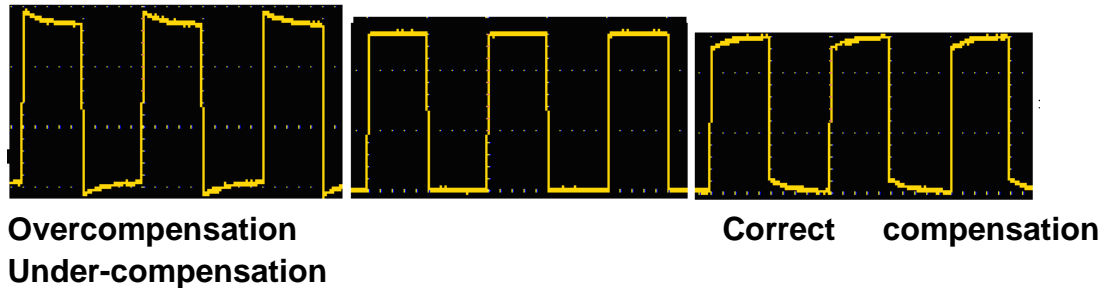
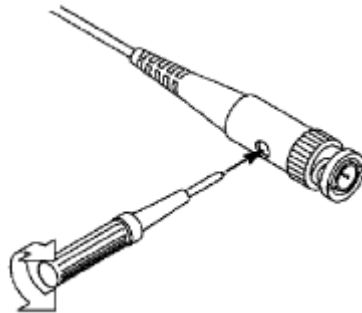

Figure 0-2: Display Waveform of Probe Compensation
Figure 0-3: Probe Adjustment
2. Check the displayed waveform and adjust the probe until the compensation is correct. See Figure 0-2 and Figure 0-3.